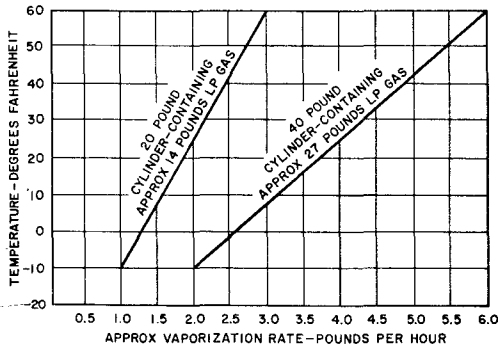

Fig. 8—Vaporization Rate—Two Thirds Full
**6.05** The approximate vaporization rate of LP-Gas Cylinders (each cylinder two-thirds full of LP-Gas at various temperatures) is shown in Fig. 8.